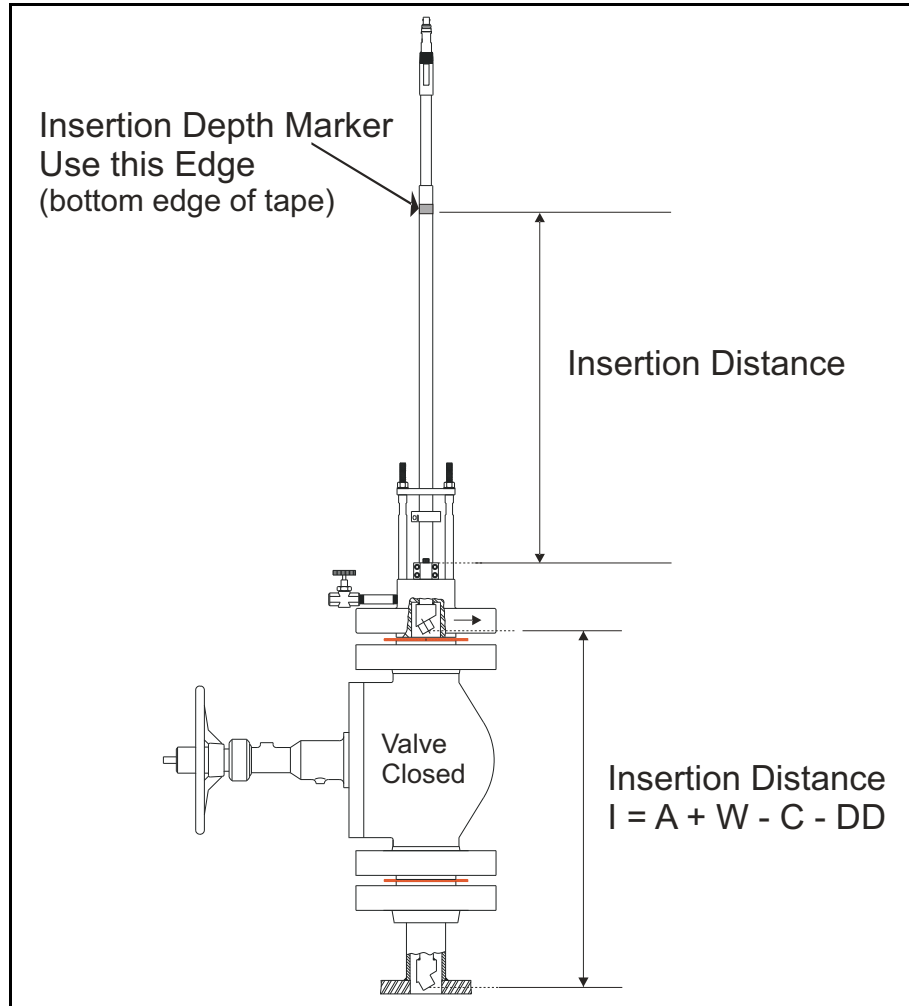

Figure 18: Marking the Insertion Distance
8. Mark the insertion distance on the shaft of the transducer, using one layer of colored electrical tape around the circumference so that the ends overlap (see *Figure 18* below). Alternatively, apply any mark that is waterproof and easily identifiable.